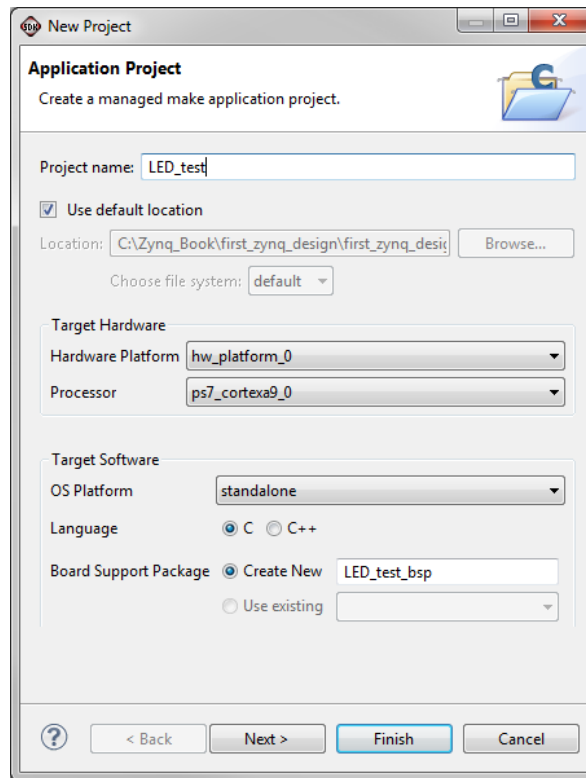

Figure 1.23: New Application Project Dialogue
- (b) The *New Project* dialogue window will open. Enter **LED_test** in the *Project name* field, as shown in Figure 1.23, keeping all other options with the default settings. Click **Next**.